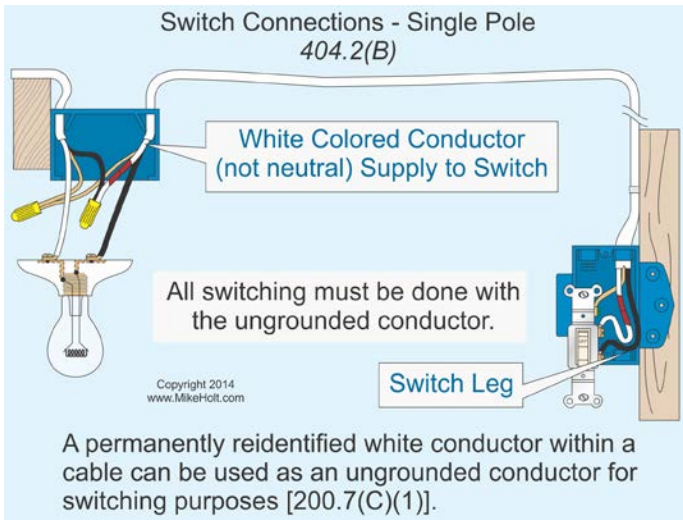

Figure 404-4
(B) Switching Neutral Conductors. Only the ungrounded conductor is permitted to be used for switching, and the grounded [neutral] conductor must not be disconnected by switches or circuit breakers. Figure 404-4